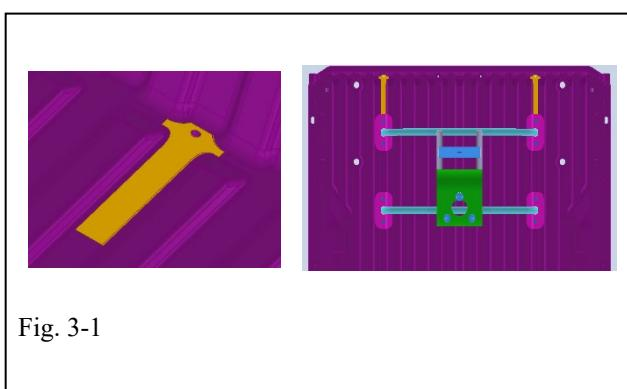

Fig. 3-1
- Cut out the 2 template on page 7 and align with the bed grooves and drain holes. You may need to move the tire carrier rearward. (Fig. 3-1)